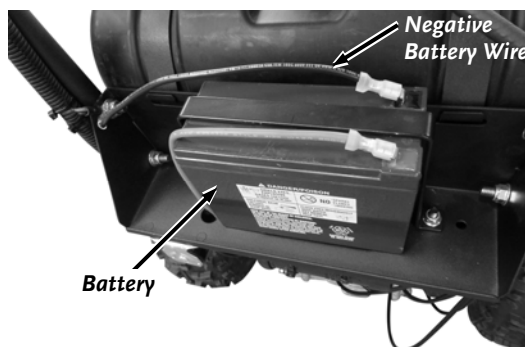

Figure 9
1. Connect the negative (black) wire to the negative terminal on the Battery by sliding the Connector onto the Terminal (**Figure 9**).